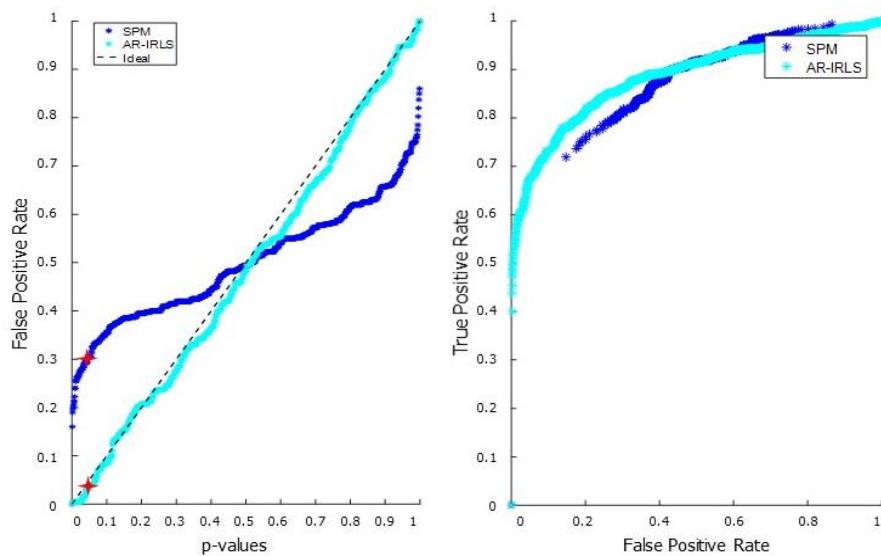

Figure 6-21: (Left) Estimated false discovery rate as a function of theoretical p-value; (Right) ROC curve ;
To validate this new algorithm, 500 synthetic sets of fNIRS data were simulated by producing a resting state composed of temporally correlated noise and hemodynamic response functions (HRFs, peak amplitude: 0.04-0.2 μ M). HRFs were added only to half the channels (true active channels). Both an AR(1) and an AR(2) pre-whitening were run separately on the data. The performances of each model were then evaluated by plotting the ROC curve and the estimated false discovery rate as a function of the theoretical p-value. (**Figure 6-21**)